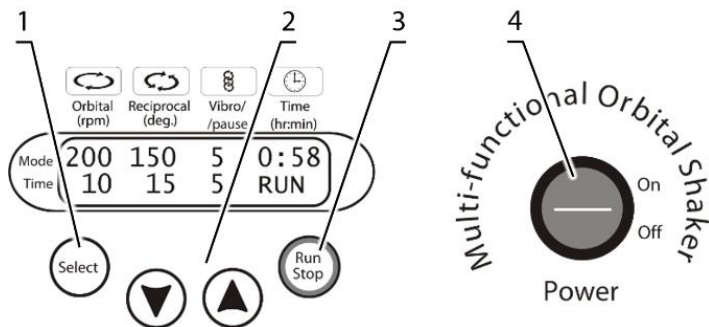

Figure 3. Control panel of PSU-20i
- 5.2.1. Connect the external power supply to the mains and switch on the **Power** switch (fig. 3/4).
- 5.2.4. Press the **Run Stop** key (fig. 3/3) to start the program. The platform motion starts, the indication RUN and the changing time values are shown on the display.
- 6.3. Press the **Select** key (fig. 3/1) to choose the parameter to change. Each pressing of the **Select** key consecutively activates the parameters. The active parameter is flashing. Use the ▼ and ▲ keys (fig. 3/2) to set the necessary value. Hold the key to change values faster.